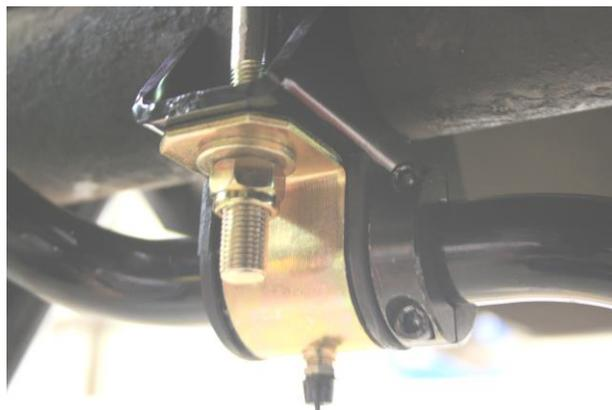

Figure 6 – Split Collar Clamp
6. Separate the Split Lock Collar into two pieces and place around the anti-roll bar to the inside of the anti-roll bar clamps on the rear axle. Reassemble the collar using High Strength Loctite on the bolts and torque to 15 ft-lbs. **NOTE:** Position the collars tight to the urethane bushing when installing. Figure 6 shows the clamp in place.